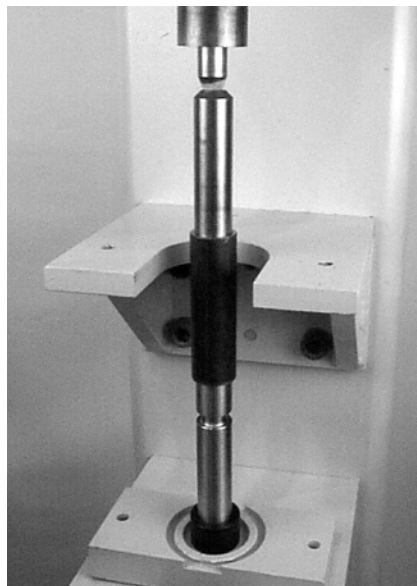

Figure 52
5. Using arbor press or similar device, press bearing onto pulley shaft (see Figure 52).